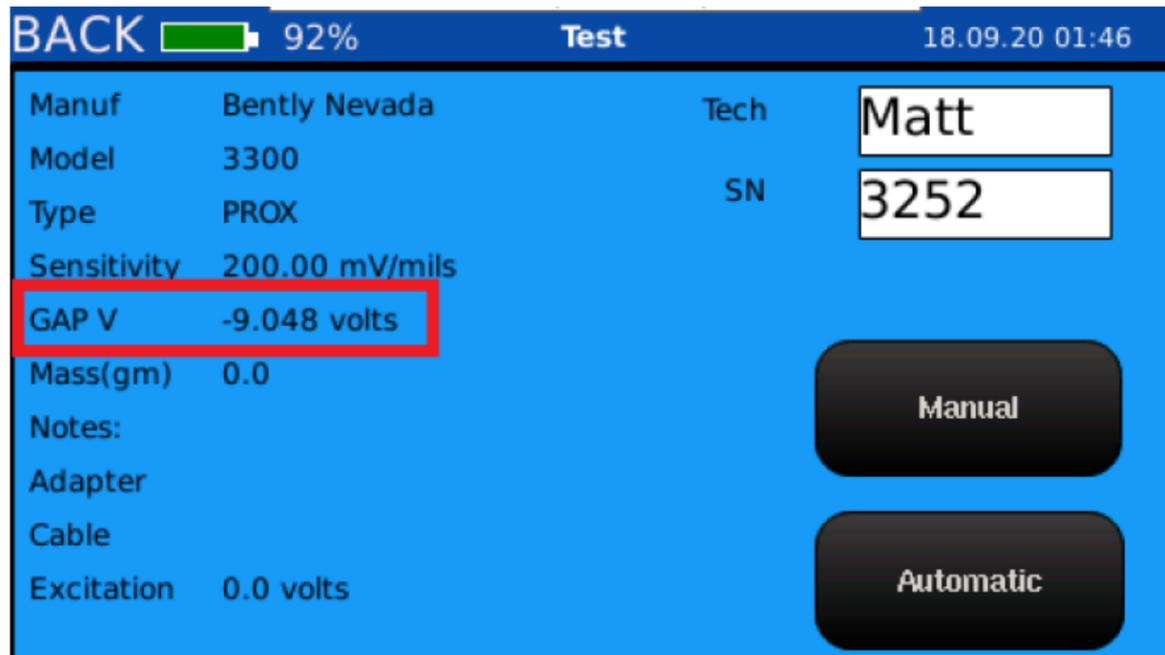

Figure 45. Sensor profile screen for the proximity probe
10. Locate the gap voltage, shown as "GAP V", on the sensor profile screen (*Figure 45*). The gap voltage is the DC voltage measurement from the probe/driver and is shown as a negative value.
13. Select the **Manual button** or **Automatic button** on the sensor profile screen (*Figure 45*).